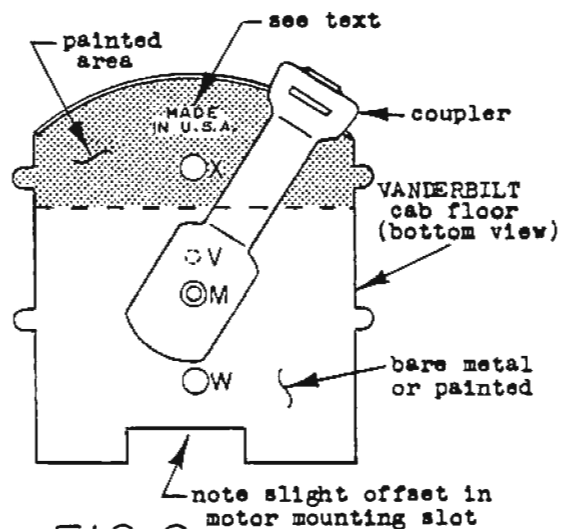

FIG. 2
Aside of the Vanderbilt floors with swing-pin couplers, Fig. 2 shows the 'standard' Vandy floor. Various holes appear (X, V & W) other than the normal coupler hole (M). Their use is unknown to me, but they were not used in any way for the earlier Joy Line swing-pin coupler. Interestingly, cab floors appear
with the following combination of holes (along with the coupler hole M): No other holes, X only, X & W, or X, V & W. In addition, the X hole can be a large OR small hole. Confused? Well, let's try something simpler. Paint: The Vanderbilt cab floor can be fully painted, or only the portion behind the dotted line (Fig. 2) may be painted, the rest being bare steel. Again the reason is unclear, but might have been convenient for paint dipping. This 'masking' is not limited to one color loco as I have seen it on red, grey and black. The 'MADE IN U.S.A.' nomenclature is stamped in some floors, omitted in others.
shown in Fig. 3-b. Tabs are in the same positions as the Vanderbilt, but the Mercury has additional turned-up half-round flanges at the front as shown in the end view of Fig. 3-b. The strange holes that adorned the Vanderbilt floors are absent on the Mercurys. The MAR circle emblem shown in Figs. 3-b & 3-c appears on some Mercury floors and not in others. Likewise the 'MADE IN U.S.A.' nomenclature appears on some Fig. 3-b floors, but never WITH the MAR circle on the same piece as shown. I've never seen the 'MADE IN U.S.A.' stamped into the floors shown in Figs. 3-a & 3-c. Notice that the 'Vanderbilt notch' (Fig. 2) is not present on the Mercury floors (Figs. 3-b & 3-c) but a "pseudo-notch" is created by the addition of 2 square tabs. This results in the motor in Mercurys being pushed farther forward than in Vanderbilts.